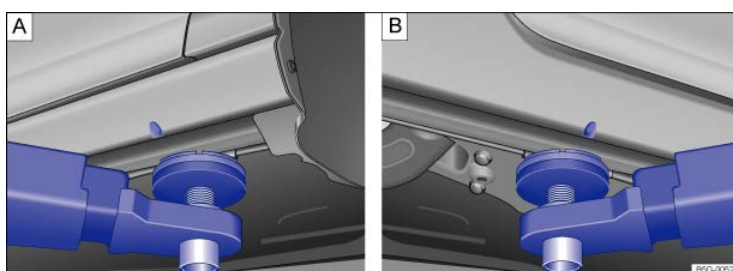
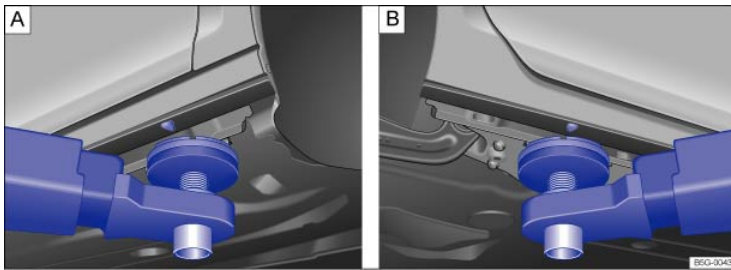

Fig. 206 : Lifting point at the front. : Lifting point at rear for lifting the vehicle using a workshop hoist or floor jack (Golf).
Fig. 207 : Lifting point at the front. : Lifting point at rear for lifting the vehicle using a workshop hoist or floor jack (Golf GTI, Golf R).
The vehicle may only be raised at the lift points shown in the illustration ⇒ Fig. 206 or ⇒ Fig. 207. If the vehicle is lifted at different points, vehicle damage ⇒ ⓘ and serious injuries may occur ⇒ ⚠.
- Always lift your vehicle only at the designated lift points shown in the illustration ⇒ Fig. 206 or ⇒ Fig. 207. Not using the designated lift points can cause the vehicle to fall off the floor jack when heavy parts such as the engine or transmission are removed.